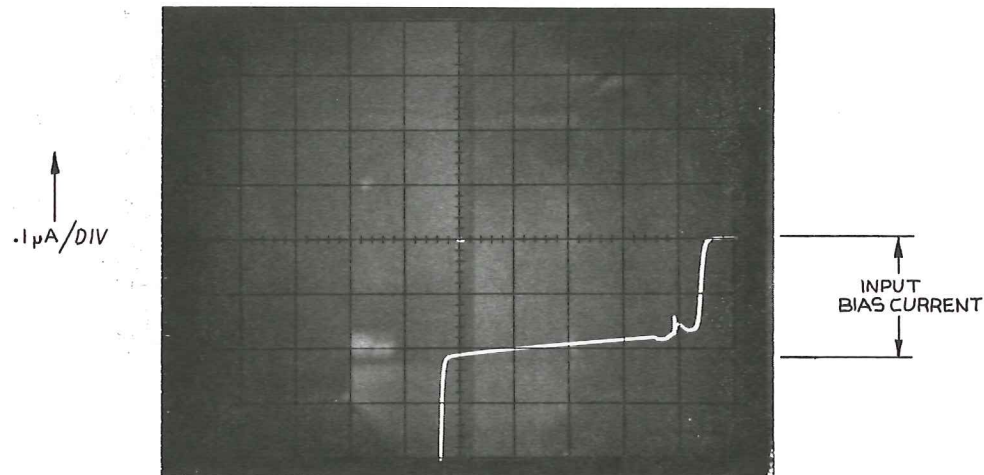

Figure 9. Typical display at input bias current.
- CHECK-that vertical display is  $\leq 5$  divisions from graticule center ( $\leq 500$  nA); see Fig. 9. Reset Vert Volts/Div if better resolution is needed.